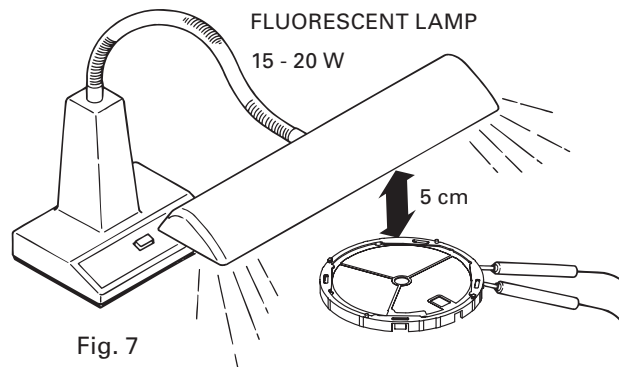

Fig. 7
- 2) Expose the SOLAR CELL to the light of a fluorescent lamp (use the one with 15 to 20 watts) at a distance of 5 cm while connecting the probes to the solar cell unit (Fig. 7.)